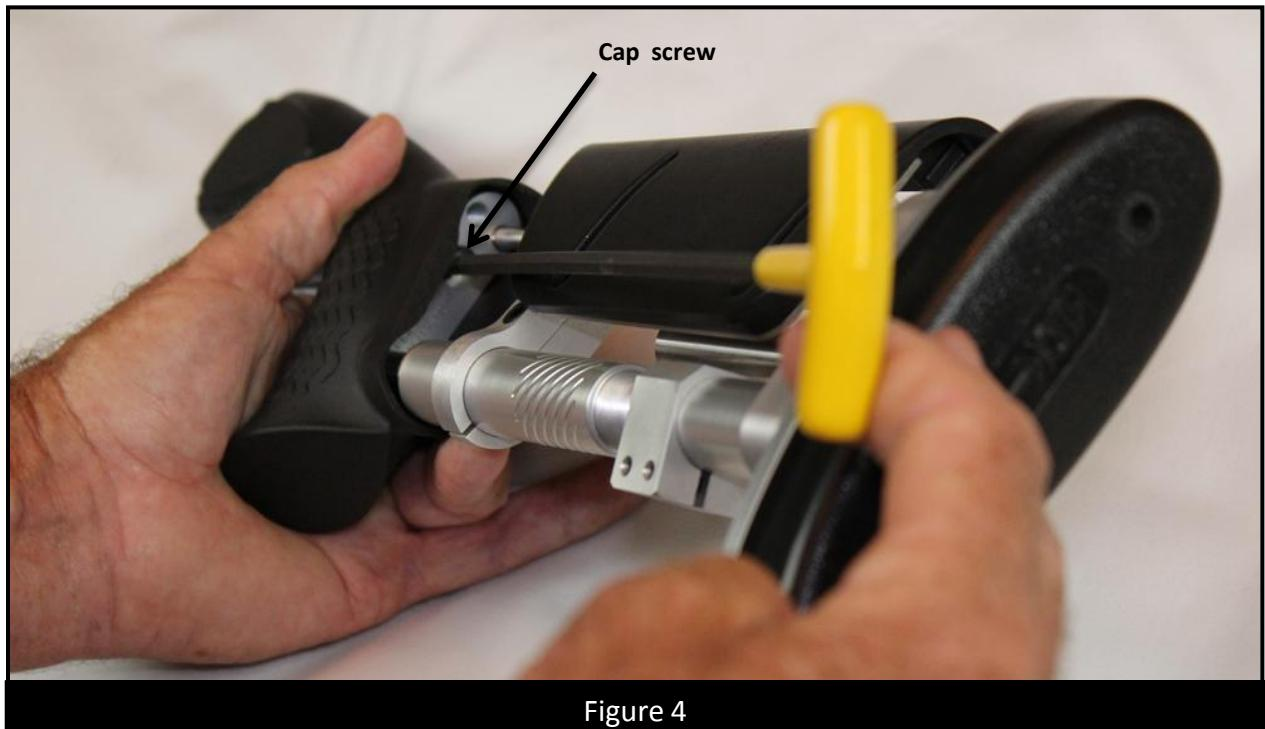

Figure 4
B. Tighten the 1/4 - 28 X 1 3/8" long socket head cap screw [Ident. C] with the provided T-Handle tool. Tighten securely. (*Figure 4*)